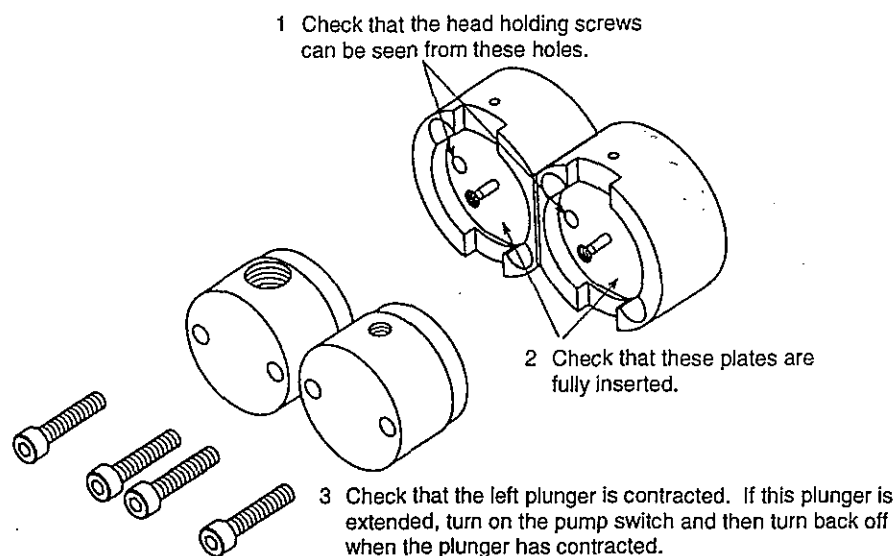

Figure 9.7 Remounting the pump heads
- (9) After performing checks 1, 2, and 3 shown in Fig. 9.7, remount the pump head horizontally.
- (10) Fix the pump heads as follows (see Fig. 9.7):